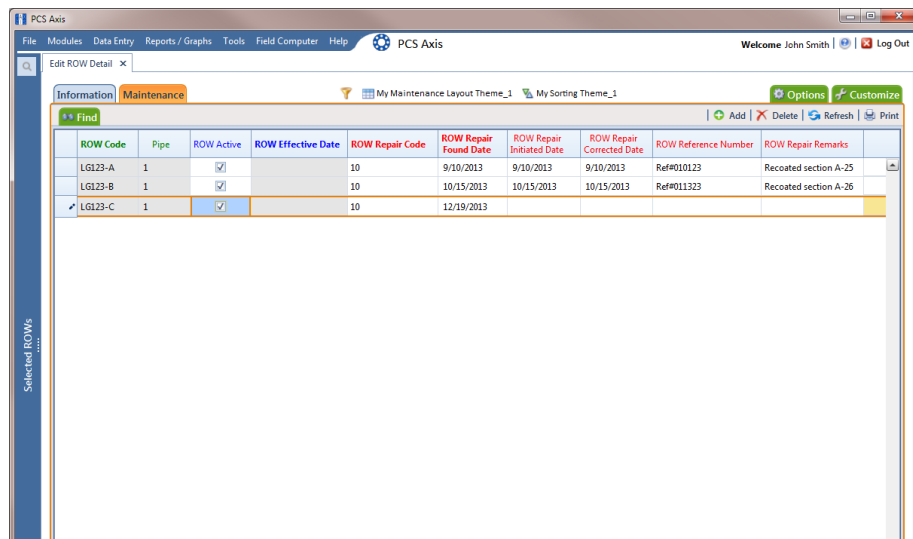

Figure 4-22. ROW Detail Maintenance Grid - New Record
- 10 Click  **Save** to close the *Add Record* dialog box and add a pipeline maintenance record in the grid (Figure 4-22).